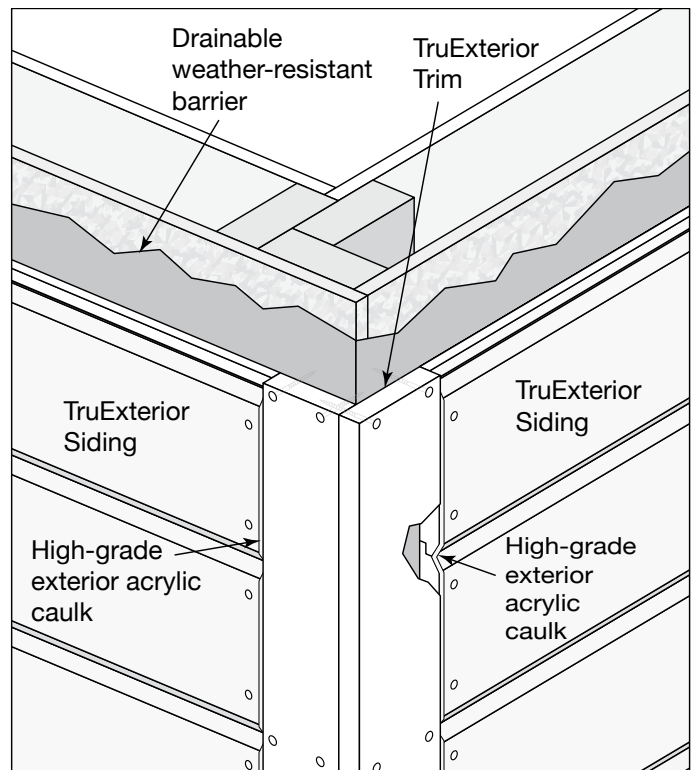

Fig. 9b: Outside corner detail, no gap and with caulk
- Typical outside corners are created using 1"x5" and 1"x6" trim, installed using approved fasteners (Fig. 9b).
- Secure each trim piece with 2 nails every 16" along the length of each piece of trim, staggering the nail pattern slightly to prevent opposing nails from contacting each other (Fig. 9b).
- Ensure that the nails penetrate the framing and the nails of the longer trim piece penetrate the shorter trim piece at the corner (Fig. 9b).
- Butt each course of siding up to the corner trim and secure in place (Fig. 9b).
- Seal the joint between the outside corner trim and the siding with high-grade, exterior acrylic caulk (Fig. 9b).